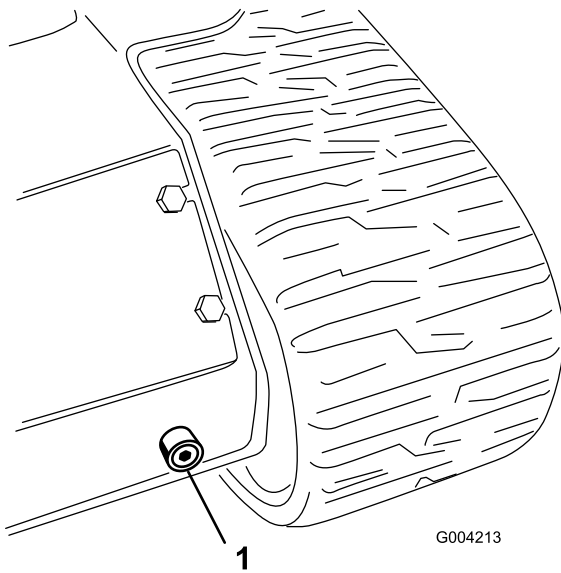

Figure 69
6. Place a large drain pan capable of holding 57 L (15 US gallons) under the drain plug on the front of the machine (Figure 69).
7. Remove the drain plug and allow the oil to drain into the pan (Figure 69).